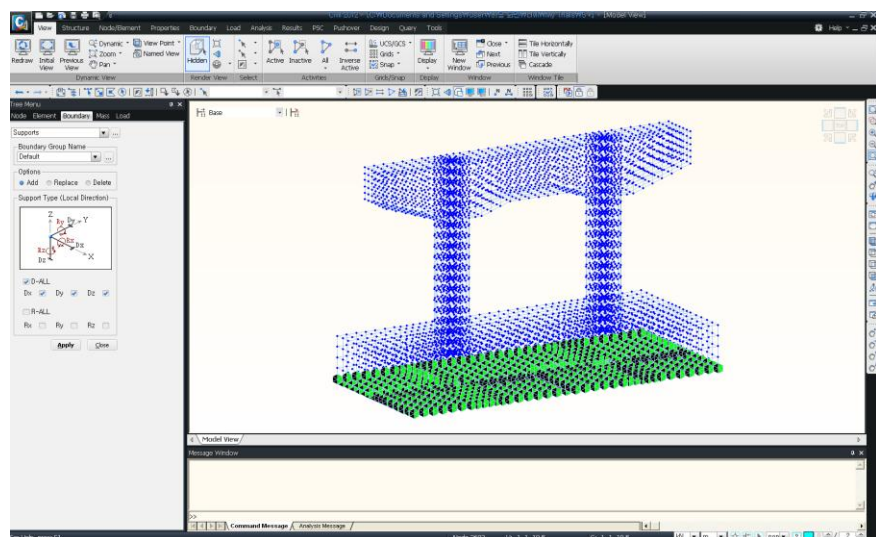

Figure 5.22. Completed Structure
10. Click  (Fig. 5.22).
11. Confirm the node entries for supports and click  **Redraw** (Fig.5.22).